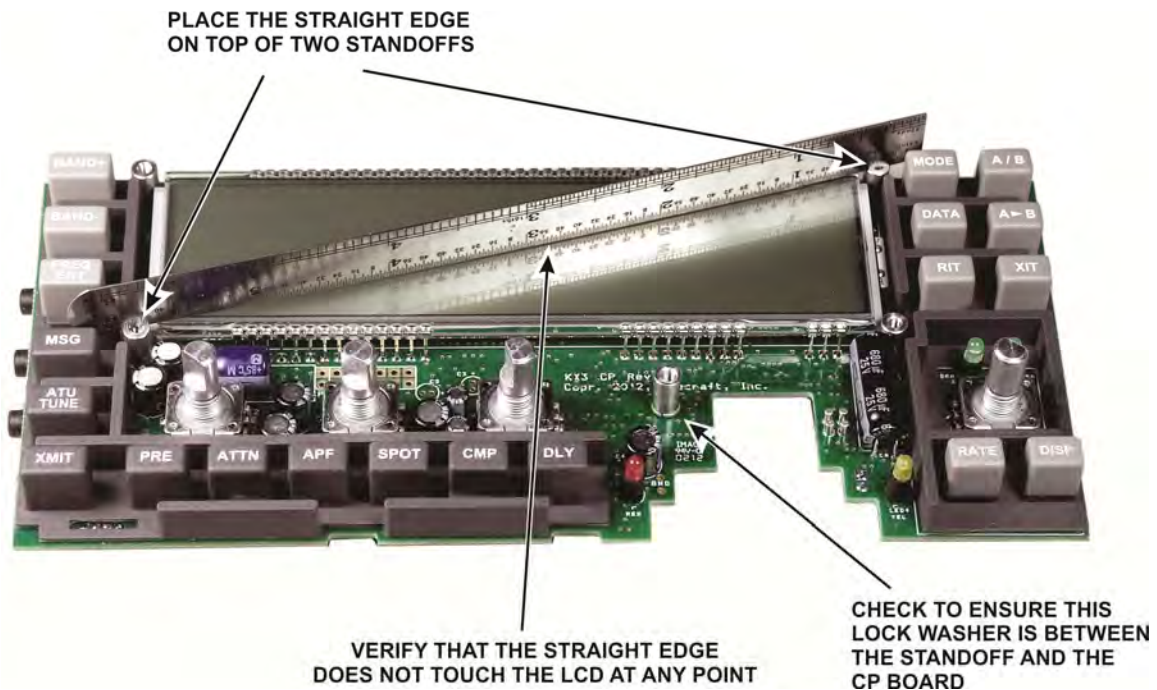

Figure 13. Checking Standoffs.
6. Straight-edge rule for checking clearances (see Figure 13, pg 13) . If a straight edge rule is not available, you may use the edge of the KX3 heat sink.
☐ On the front side of the board, place a straight edge across the top of two standoffs as shown in Figure 13 and confirm that the straight edge does not touch the LCD at any point. If it does, most likely you left out one of the lock washer spacers shown in Figure 9. Move the straight edge to the remaining two standoffs and repeat the test. If you don't have a rule such as shown, you can use the straight edge of the heat sink (Figure 27).
- Verify that you placed a lock washer between the 4-40 standoff and the pc board as shown in Figure 13.